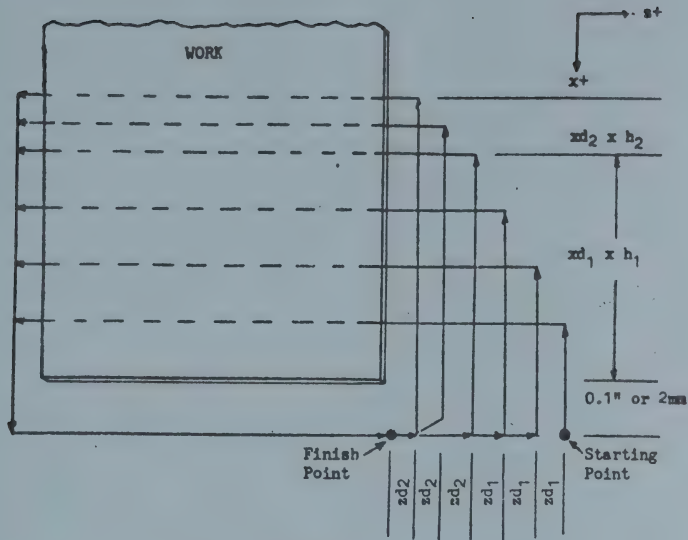
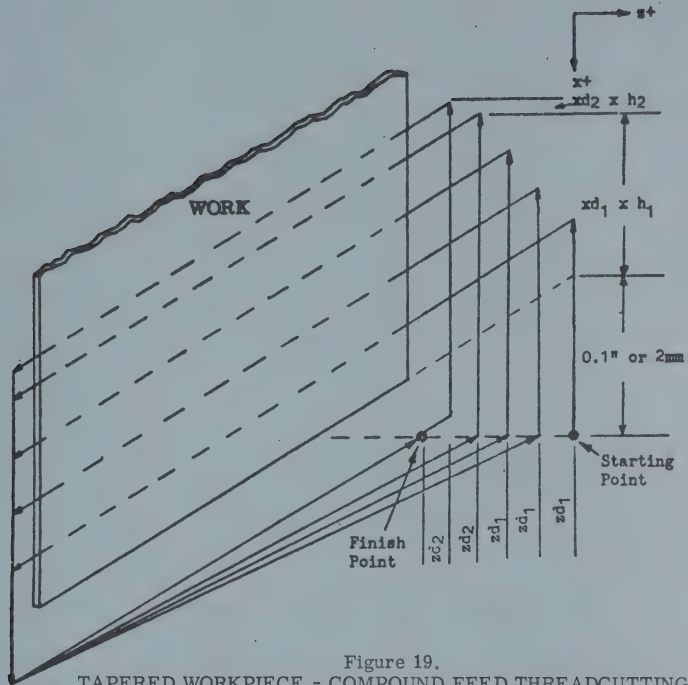

Figure 17
Figure 19.
5. For a tapered workpiece, the total of zd increments for all passes must be small enough so that the return move can clear the work surface. (See Figure 19). Note that the return is always made to an imaginary line along the z axis which runs through the canned cycle starting point. It can be seen from Figure 17 that if the starting point is not correctly chosen, the return move would eventually hit the work surface. The selection of the starting point is a function of the value programmed for zd, the slope of the tapered work, and the number of passes to be made.